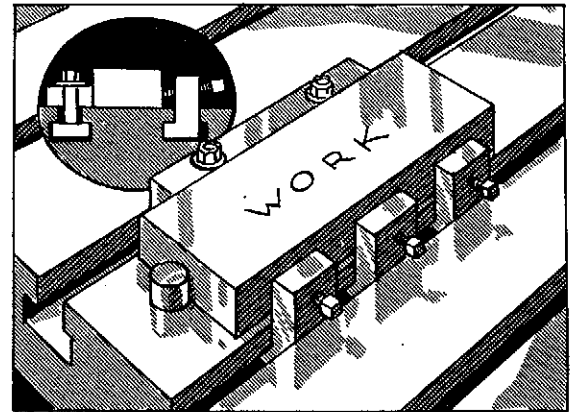

FIG. 181
2. Select three stops with screws set at an angle. The slight angular set of the screws, which is between 5° and 10° , not only will force the work against the aligning strip but also will force the work to the table (Fig. 181).